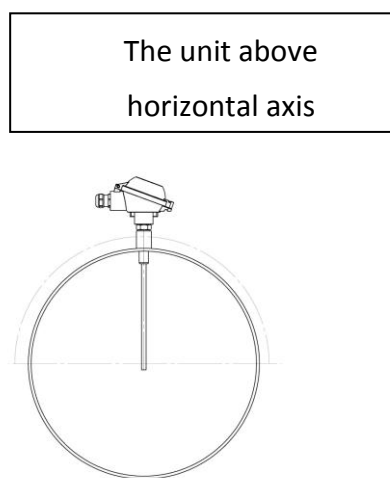

Figure 2 Round cross section duct
2. In round cross-section ducts, the unit can be installed in any position above the horizontal axis (between 9 o'clock and 3 o'clock). See Figure 2